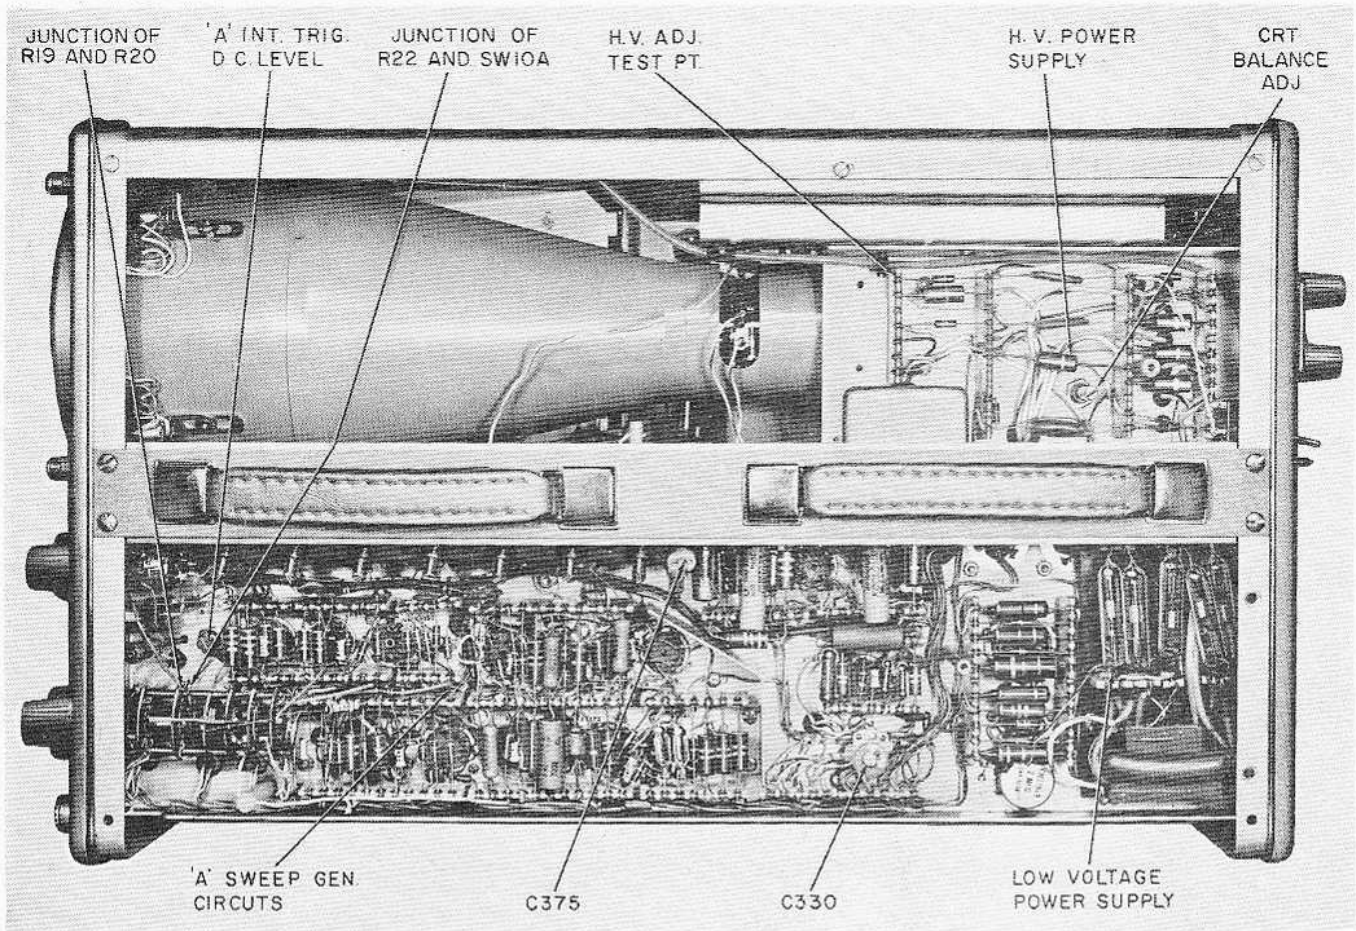

Figure 7-3. Oscilloscope Top View
- a. Connect Simpson 260 multimeter to the high voltage test point (see figure 7-3).
- e. Adjust CRT bal for optimum focus over entire screen (see figure 7-3).
- b. Connect Simpson 260 multimeter between junction of R19 and R20 (see figure 7-3) to ground.
b. Position the sweep trace to the center of the graticule, and connect the Simpson 260 multimeter between ground and the junction of resistor R22 and switch SW10A (see figure 7-3).
c. Set the multimeter on its lowest range which provides an on-scale reading, and adjust the Int. Trig. DC Level Adj (see figure 7-3) for exactly zero volts.